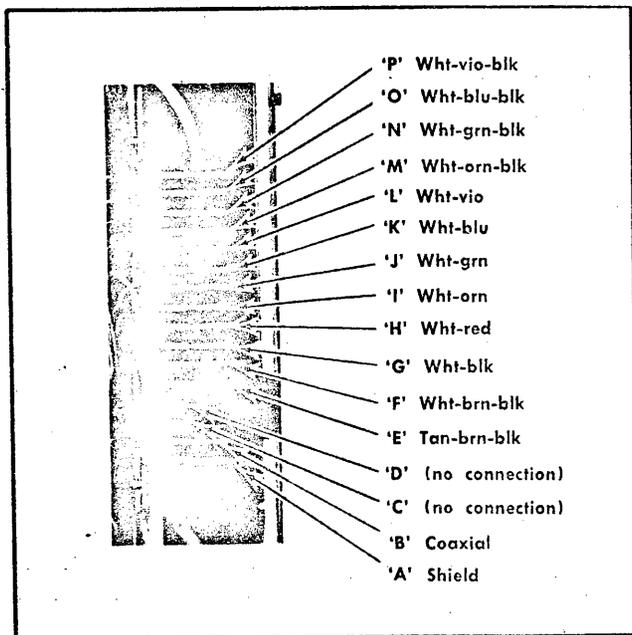
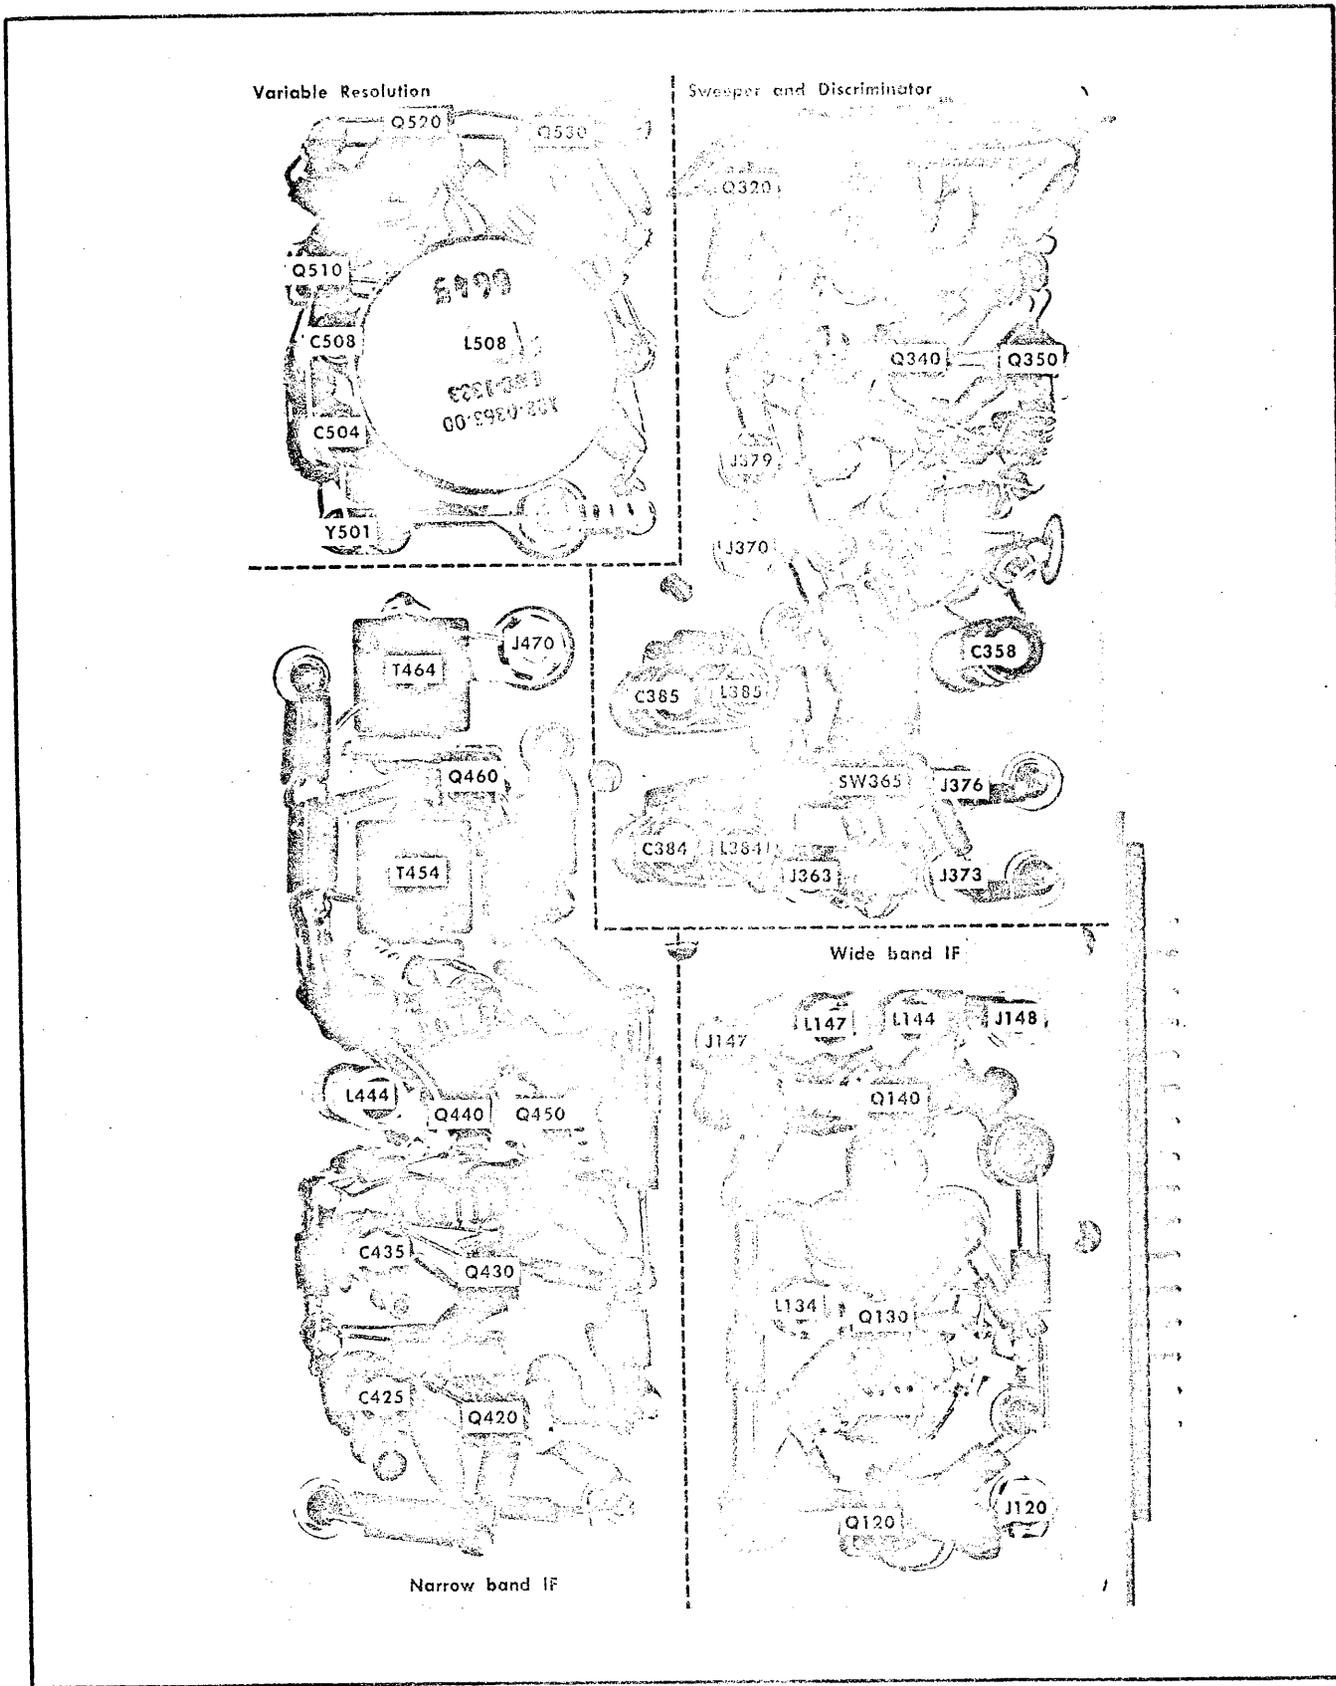

Fig. 4-9. Wire and cable color code to the honeycomb square pin connector.
Fig. 4-15. Honeycomb assembly circuit and component layout.
5. Insure that none of the terminals and tie points are shorted or grounded. Reconnect any cables or wires that may be disconnected. Fig. 4-9 illustrates wiring color code. Apply power if desired. The ground-wire on the DISPERSION RANGE switch must be grounded for proper operation of the instrument. Fig. 4-15 illustrates the component layout and circuit layout on the honeycomb chassis.
6. Remount the chassis using the reverse procedure of steps 1 through 5. Do not force the chassis into place. Check for pinched or undue strain on the wires and connectors. When replacing the DISPERSION RANGE switch, make certain its shaft is properly coupled to SW365. Check the operation of the DISPERSION RANGE switch and insure that the knob is properly indexed with the front panel markings. Wire and cable color code are shown in Fig. 4-9.